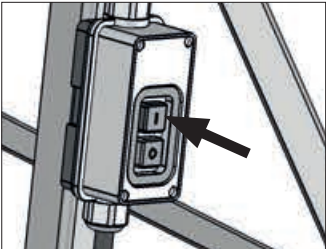

Fig. 08
Install the shredder in a dry place not exposed to weather and on a level floor. Be sure that the shredder tension is the same as the electric outlet. Connect the power cord to the switch. To switch the shredder on, press the black button (I) located on the side of the machine. To switch off, press the red button (O) [Fig. 08].